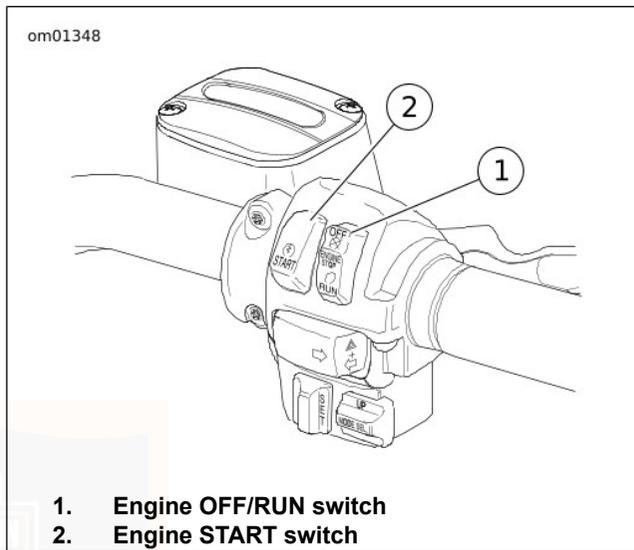

Figure 37. Right Handlebar Controls
2. See Figure 37. Turn the off/run switch to RUN position.